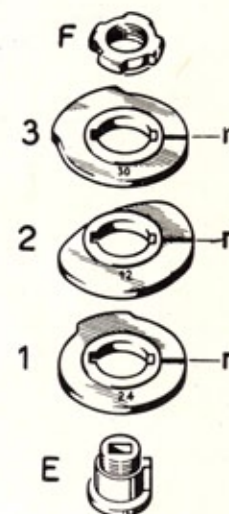

Fig. 64
- Choose first cam and slip it onto cam-holder bushing « G » (fig. 64 : the face of the cam on which the chosen number is stamped must be turned upwards.